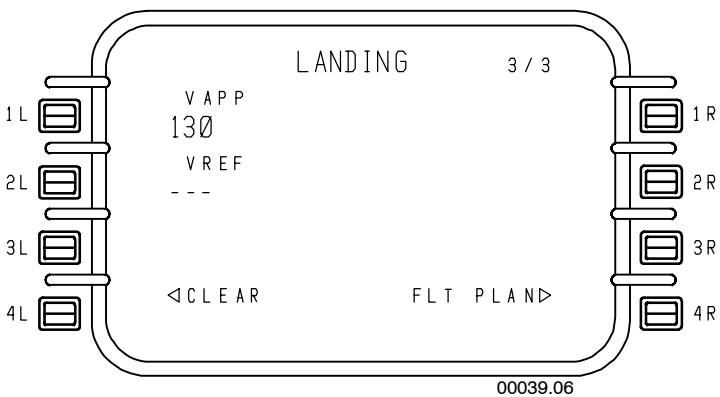

Figure 5-37
- **LANDING 3/3** – Figure 5-37 is used to enter landing speeds.